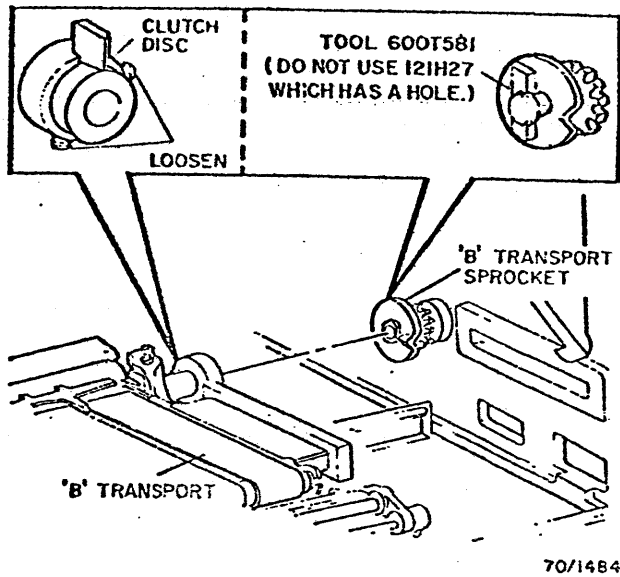

Fig. 3-128. Clutch Disc Gap Adjustment
1. Loosen setscrews and apply tool 600T581 as shown in Fig. 3-128.